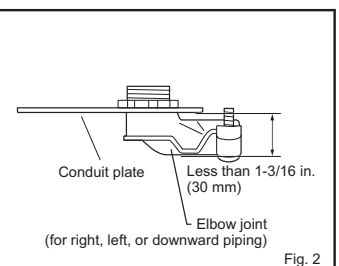

Fig. 2
- Attach straight joint (for rear piping) / elbow joint (for right, left, or downward piping) to conduit plate with lock nut. The thread of the installed conduit pipe / elbow joint appearing inside should be less than 3/8 in. (10 mm). (Fig. 1) Elbow joint should appear less than 1-3/16 in. (30 mm) outside. (Fig. 2)
- Pull out the drain hose at the back left of the indoor unit. (Fig. 2)
- If the drain hose provided with the indoor unit is too short, connect it with a field-supplied drain hose (I). (Fig. 2)